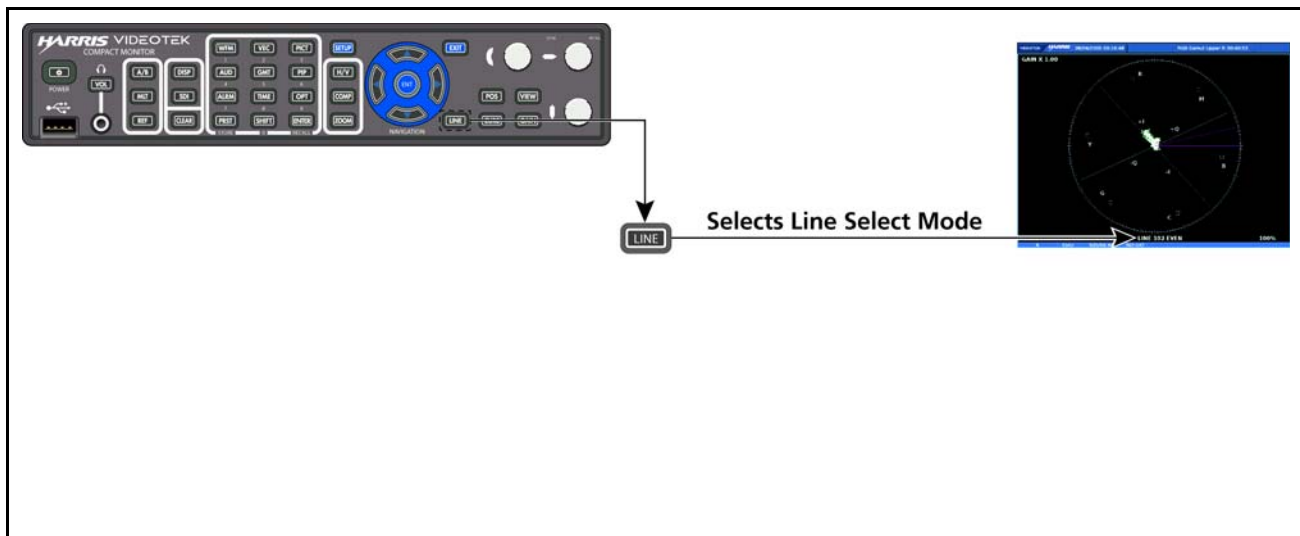

Figure 4-19 Establishing Line Select
- 1 Press the **LINE** button to place the selected vector display in Line Select mode. At the bottom-center of the display, the Line number and the Odd or Even field appear, as shown in Figure 4-19.